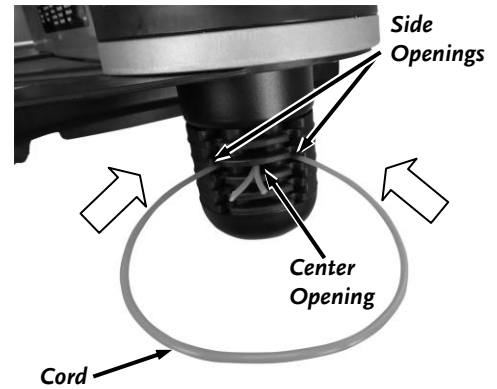

Figure 5
1. Insert the ends of one Cord into the side openings in the Line Plate (**Figure 5**).